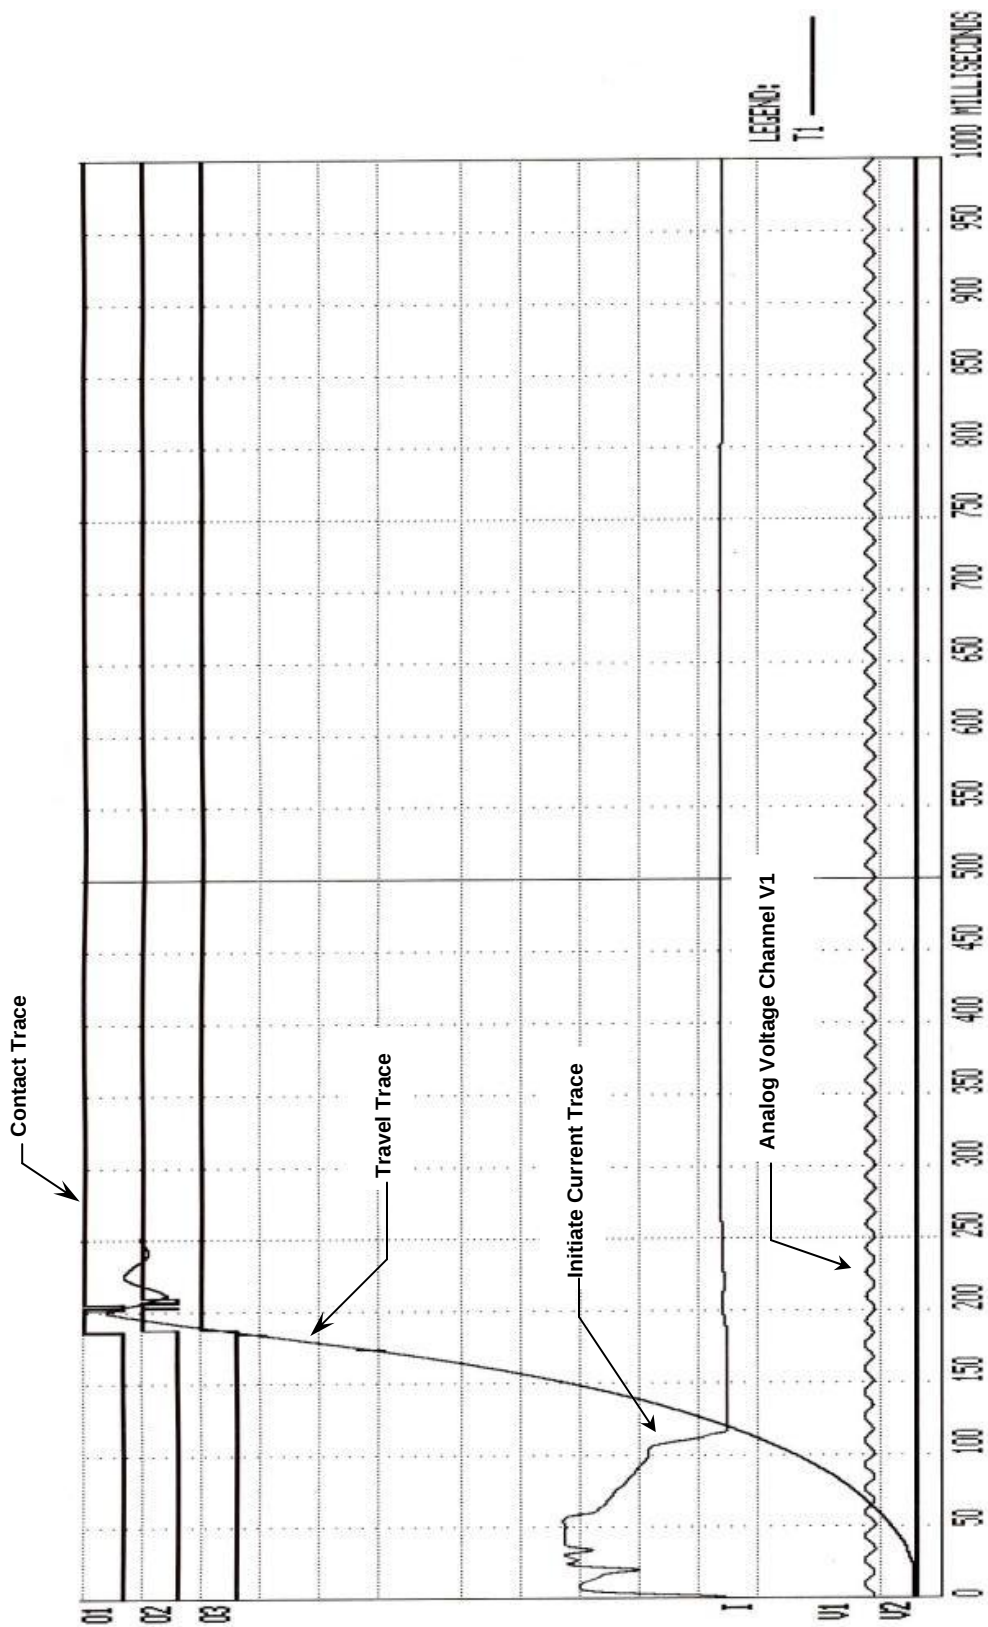

Figure 12.0 Typical Graphic Result Printed on Thermal Printer
3. Timing test type (OPEN, CLOSE, O-C, C-O, O-C-O) is identified. A CLOSE timing shot is shown in Figure 12.0.
4. Contact channel #1 time is shown in both milliseconds and cycles. From Figure 12.0, contact channel #1 time was 184.85 ms or 11.09 cycles.
3. Typical graphic results are shown in Figure 12.0 and 13.0.